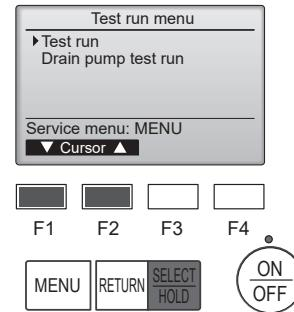

Fig. 6-4
- ④ Select "Test run" with the [F1] or [F2] button, and press the [SELECT/HOLD] button. (Fig. 6-4)